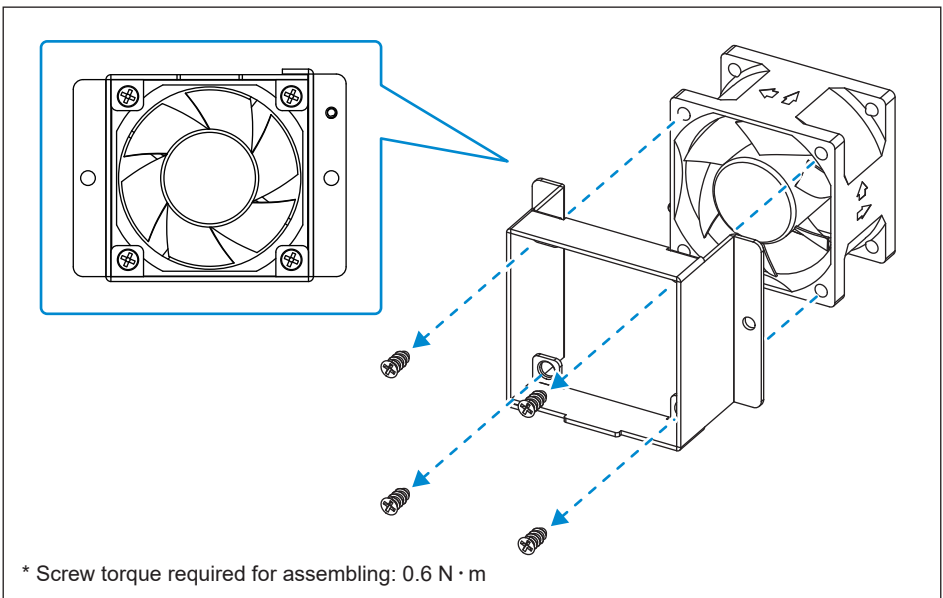

Figure 5-15: Replace with a new fan
- (5) Clean assembly or replace with a new fan. (shown in **Figure 5-15**)
- (6) Reassemble using a tightening torque of $0.8 \text{ N} \cdot \text{m}$